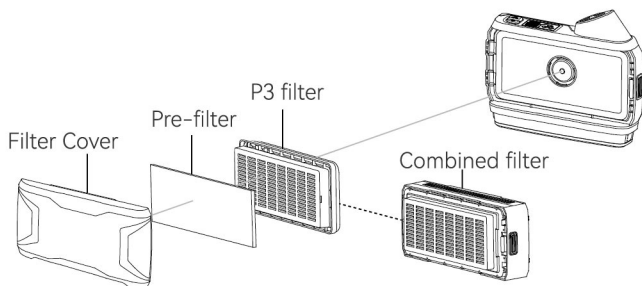

fig.2
2. Press the push button to disconnect the cover. Reinstall the filter that needs replacement (See fig.2).